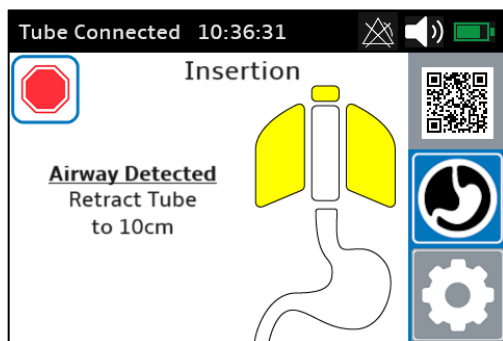

FIG 22: Airway Detected
- If airway insertion is detected (Figure 22), the Monitor will prompt the user to retract the feeding tube to <10cm depth and re-initiate the insertion procedure.
Caution: If airway is detected (See Figure 22), do not advance feeding tube.
Monitor prompts user to retract tube to 10cm depth and reinitiates insertion procedure (Figure 22)